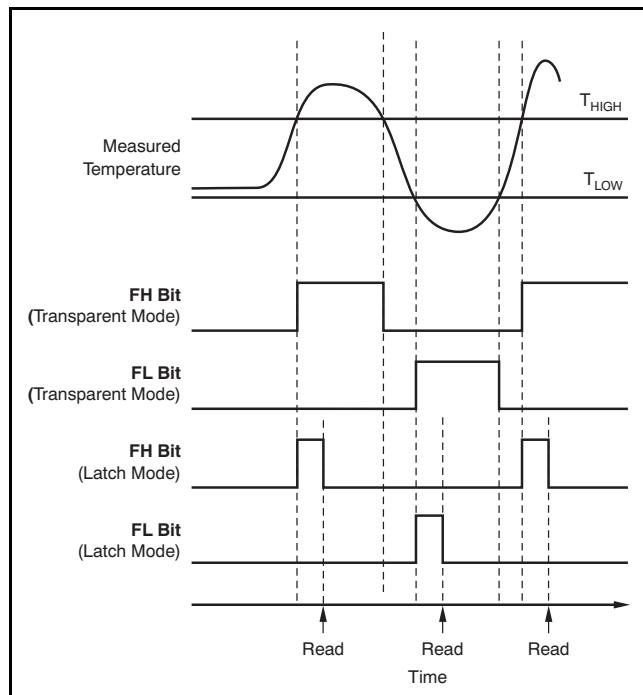

Figure 8. Temperature Flag Functional Diagram
The TMP103 contains a watchdog function that monitors device temperature and compares the result to the values stored in the temperature limit registers (T_{HIGH} and T_{LOW}) in order to determine if the device temperature is within these set limits. If the temperature of the TMP103 becomes greater than the value in the T_{HIGH} register, then the flag-high bit (FH) in the configuration register is set to '1'. If the temperature falls below value in the T_{LOW} register, then the flag-low bit (FL) is set to '1'. If both flag bits remain '0', then the temperature is within the temperature *window* set by the temperature limit registers, as shown in Figure 8.
The T_{HIGH} and T_{LOW} registers are used to store the temperature limit thresholds for the TMP103 watchdog function. At the end of each temperature measurement, the TMP103 compares the temperature results to each of these limits. If the temperature result is greater than the T_{HIGH} limit, then the FH bit in the configuration register is set to '1'. If the temperature result is less than the T_{LOW} limit, then the FL bit in the configuration register is set to '1'; see Figure 8.